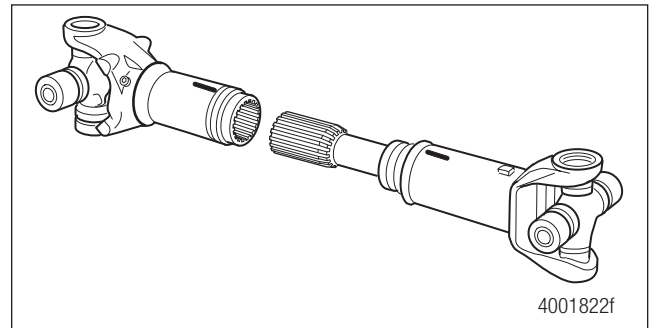

Figure 9.7
2. Pull the slip yoke and slip shaft sections apart. Figure 9.7.